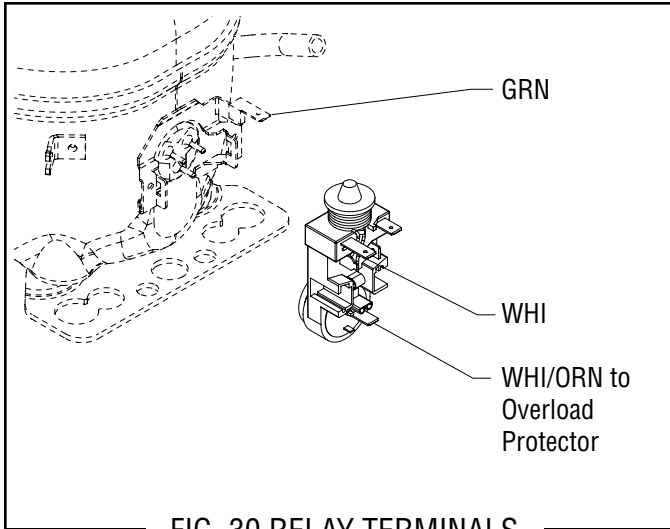

FIG. 30 RELAY TERMINALS
Compressor Start Relay: Refer to FIG. 30
##### Compressor Start Relay: Refer to FIG. 30
1. Remove the terminal cover (4).
3. Pull relay (1) off of the compressor pins and discard.
5. Refer to Fig. 30 and reconnect the wires.
6. Reinstall terminal cover (4).